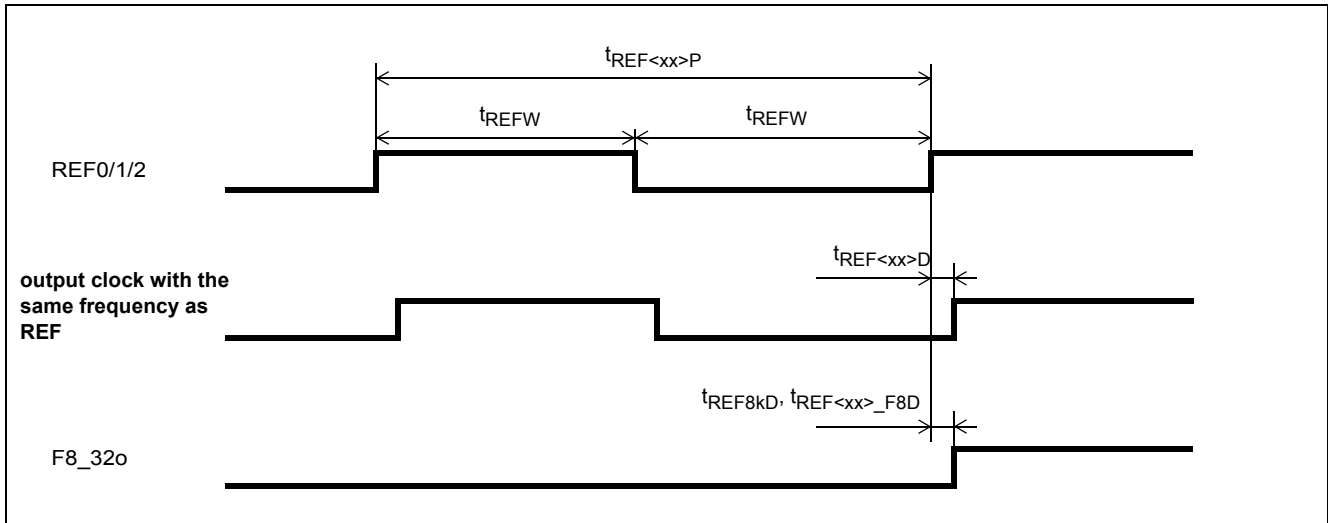

Figure 25 - REF0/1/2 Input Timing and Input to Output Timing
**AC Electrical Characteristics\* - Input timing for REF0, REF1 and REF2 references (see Figure 25).**
**AC Electrical Characteristics\* - Input to output timing for REF0, REF1 and REF2 references when TIE\_CLR = 0 (see Figure 25).**